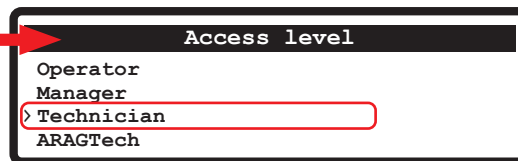

Fig. 37
- Select the user level for which you want to enter the PIN (symbol > Fig. 37) and press and hold the button ►.